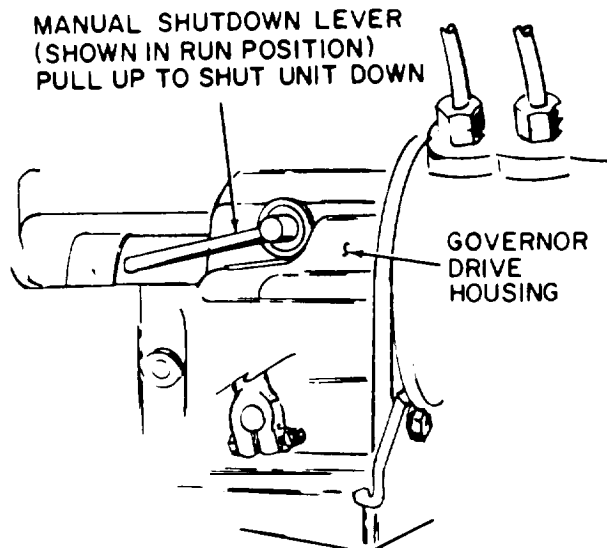

Figure 8-66. Location of manual fuel shutdown lever
2. Hold manual fuel shutdown lever in the closed rack or off position (figure 8-66).